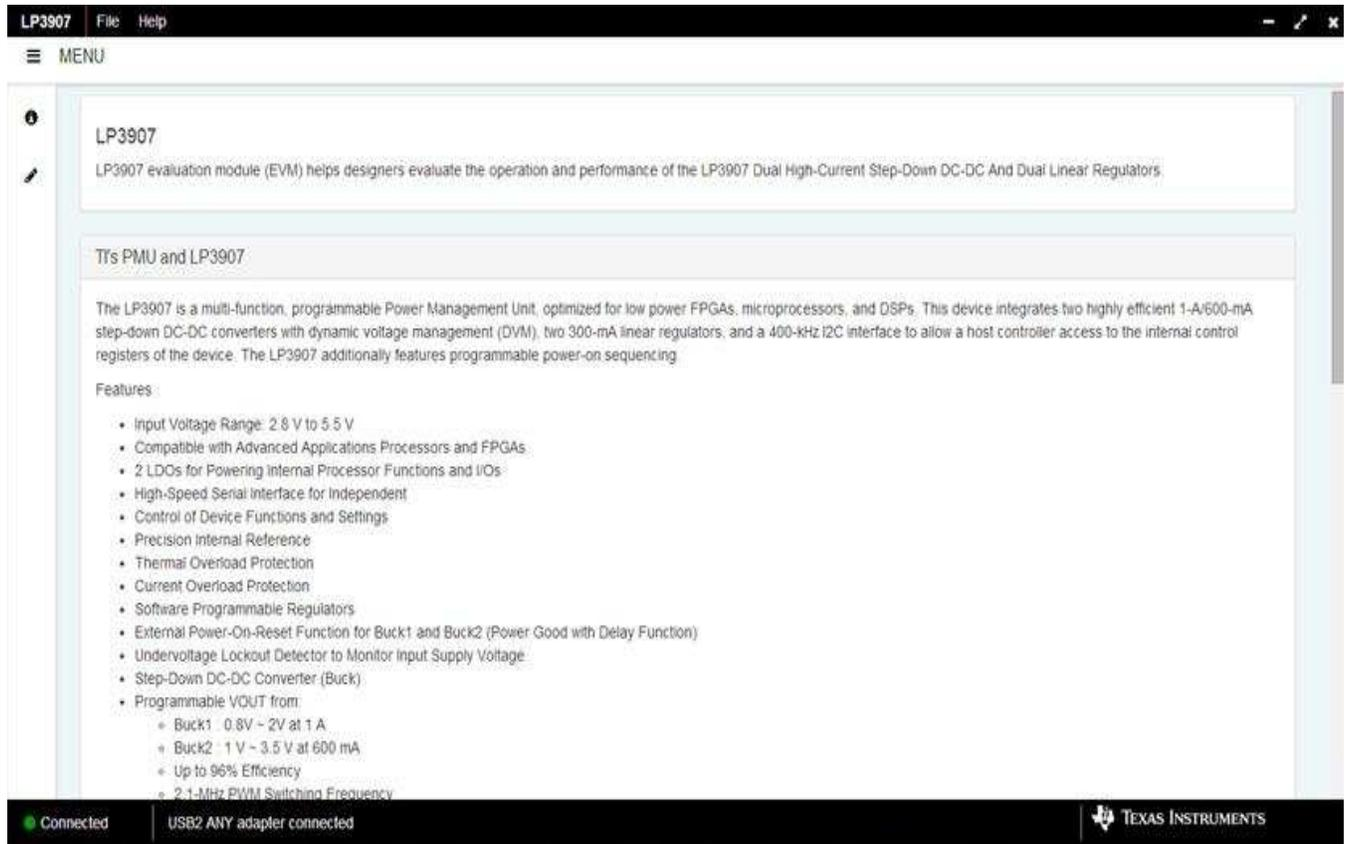

Figure 6.
- The GUI launches as shown in Figure 6.